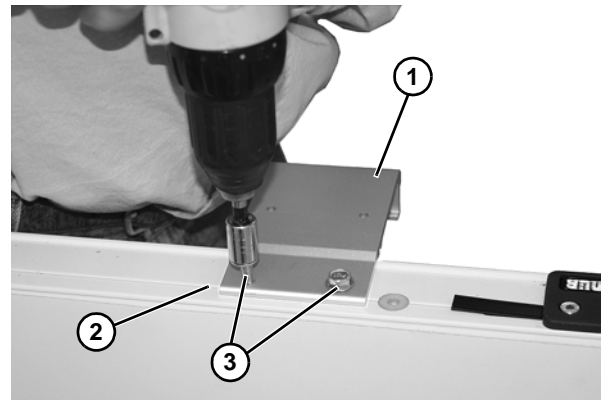

Figure 18
1. Locate and hold bracket (Figure 18, item 1) to side rail. Hole should line up with notch (Figure 18, item 2) in side rail.
2. With a cordless drill or equivalent install self-drilling screws (Figure 18, item 3). Use high speed setting to drill through side wall. Once the tap portion is started switch drill power to a lower speed. Do not fully tighten with drill.